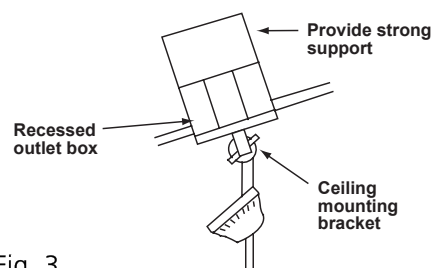

Fig. 3
**Option 3:** Recessed outlet box mounted to Joist on angled ceiling. (Fig. 3)